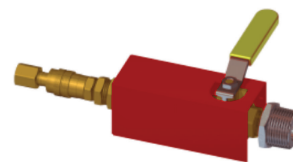

FIGURE 6
Step 3. The Nitrogen Injection Port, as shown in Figure 6, provides access to fill the system with nitrogen gas, while